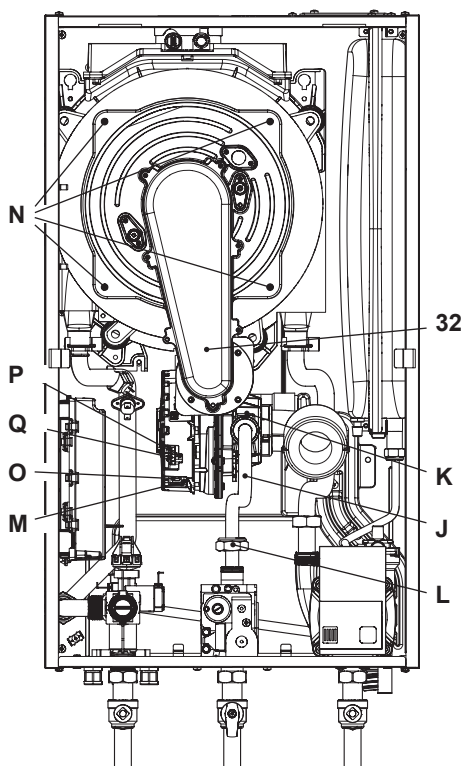

Fig. 10.8
Removing the fan burner unit 32 in Fig. 10.8.
- Insert a flat screwdriver in the connector recess **M** and lever towards the bottom, disconnect the connector at the same time **O** by pulling towards the front **O** (Fig. 10.8).
- Disconnect the fan connector **P** by pressing the plastic hook **Q** positioned at the bottom part of the connector (Fig. 10.8).
- Unscrew screws **N** and remove the fan burner unit 32 (Fig. 10.8)